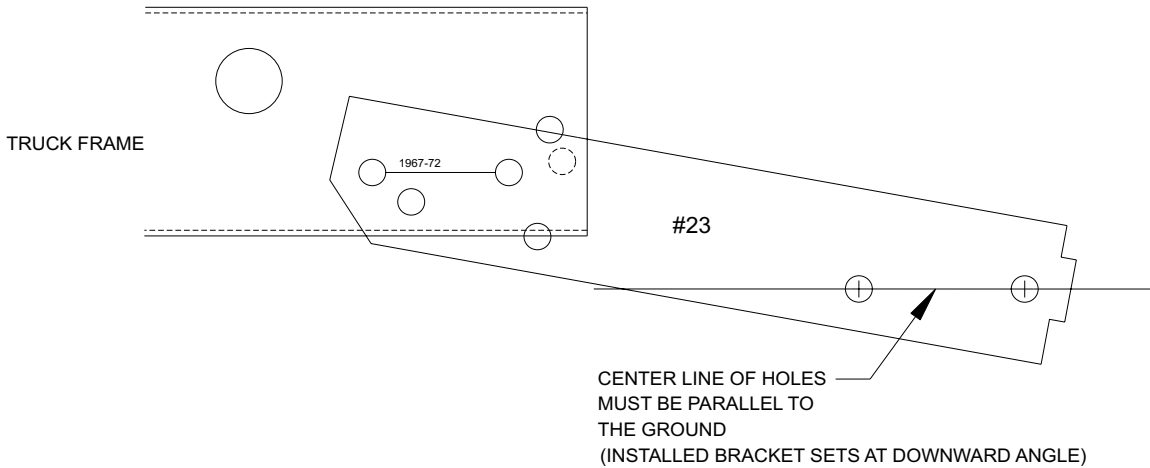

FIGURE 1A (driver side view)
STEP 1: Using 14mm hardware (yellow zinc plated), loosely install mounting brackets on the outside of truck frame rails with the offset outwards. Refer to figure 1A. DO NOT TIGHTEN mounting hardware.